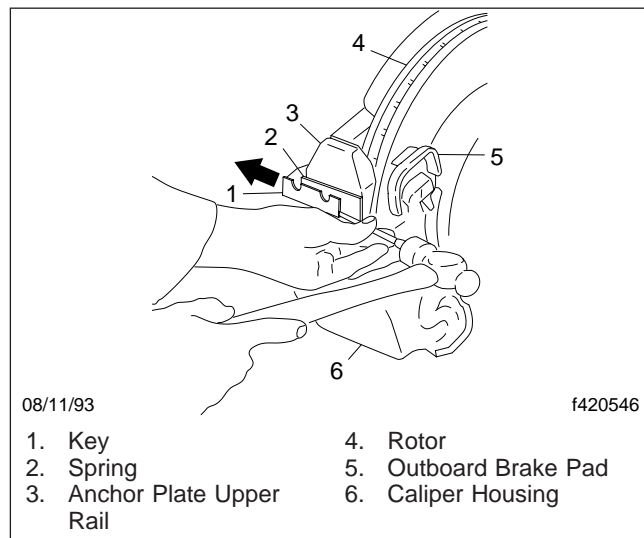

Fig. 8, Drive Out the Key and Spring
6. Using a hammer and drift, carefully drive out the key and spring. See **Fig. 8**. Be careful not to nick the anchor plate rail.